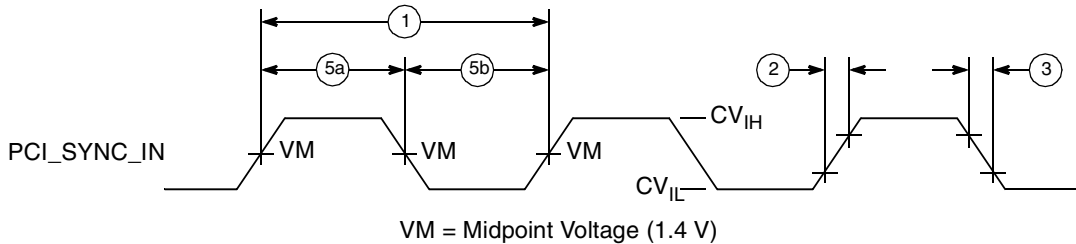
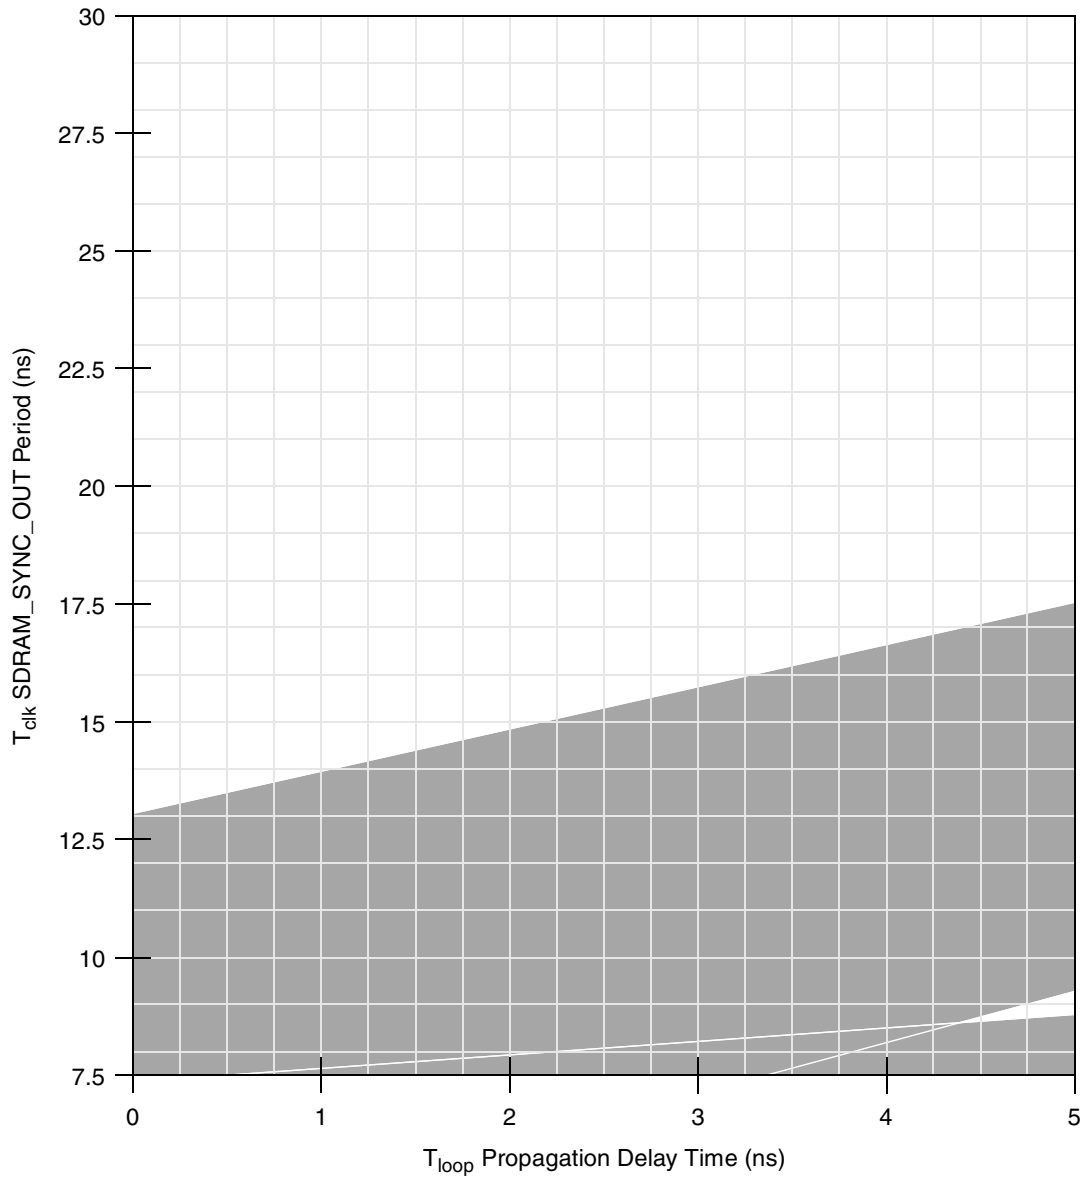
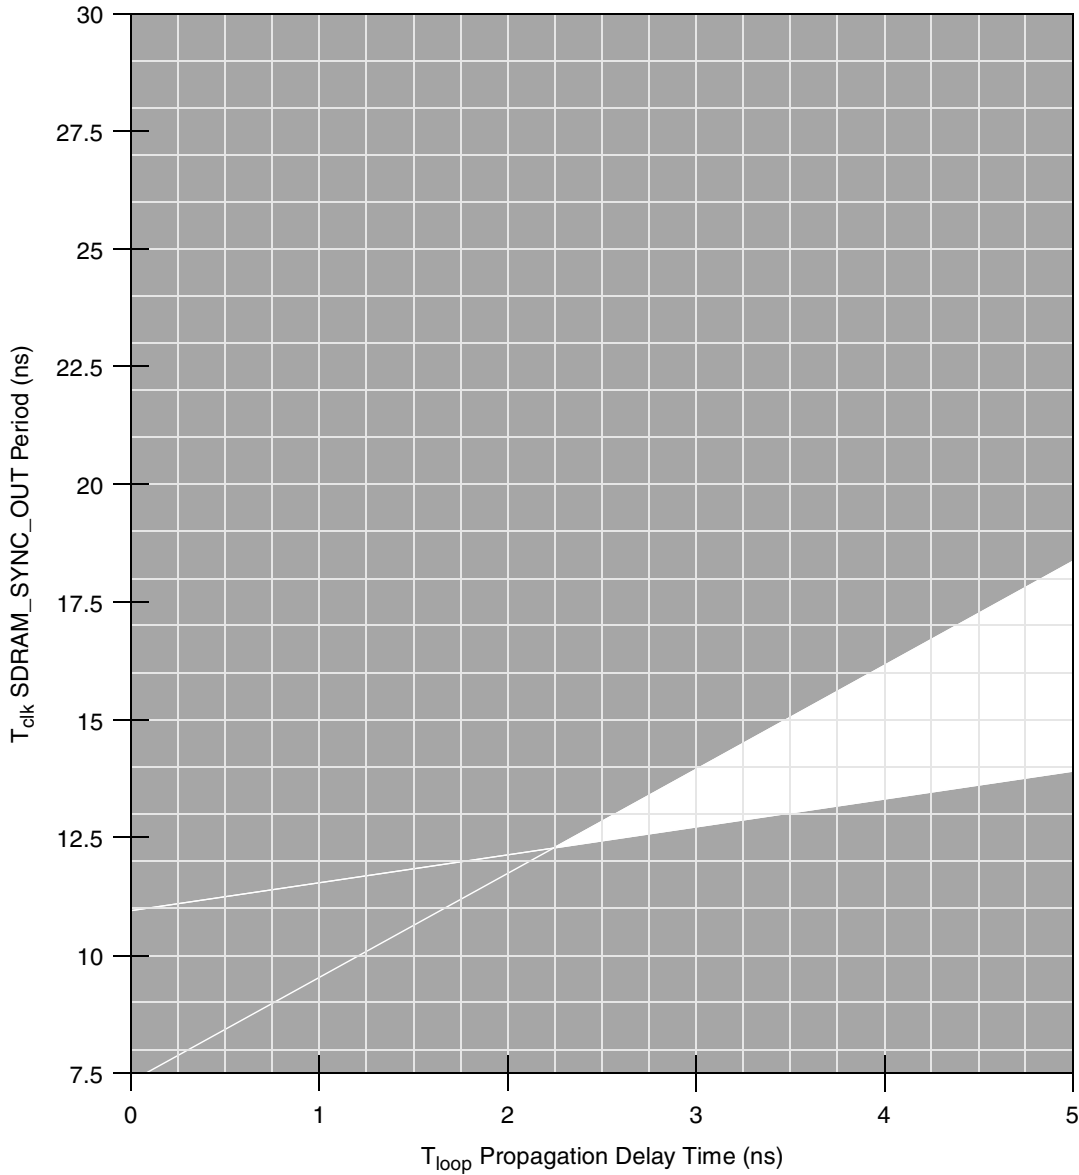

Figure 6. PCI_SYNC_IN Input Clock Timing Diagram
Figure 7. DLL Locking Range Loop Delay versus Frequency of Operation for DLL_Extend=0 and Normal Tap Delay
Figure 10. DLL Locking Range Loop Delay versus Frequency of Operation for DLL_Extend=1 and Max Tap Delay
Table 8 provides the clock AC timing specifications at recommended operating conditions, as defined in Section 4.5.2, “Input AC Timing Specifications.” These specifications are for the default driver strengths indicated in Table 4. Figure 6 shows the PCI_SYNC_IN input clock timing diagram with the labeled number items listed in Table 8.
6. DLL_EXTEND is bit 7 of the PMC2 register <72>. *N* is a non-zero integer (see Figure 7 through Figure 10). T_{clk} is the period of one SDRAM_SYNC_OUT clock cycle in ns. T_{loop} is the propagation delay of the DLL synchronization feedback loop (PC board runner) from SDRAM_SYNC_OUT to SDRAM_SYNC_IN in ns; 6.25 inches of loop length (unloaded PC board runner) corresponds to approximately 1 ns of delay. For details about how Figure 7 through Figure 10 may be used, refer to the Freescale application note AN2164, *MPC8245/MPC8241 Memory Clock Design Guidelines*, for details on MPC8241 memory clock design.
Figure 6 shows the PCI_SYNC_IN input clock timing diagram, and Figure 7 through Figure 10 show the DLL locking range loop delay versus frequency of operation.